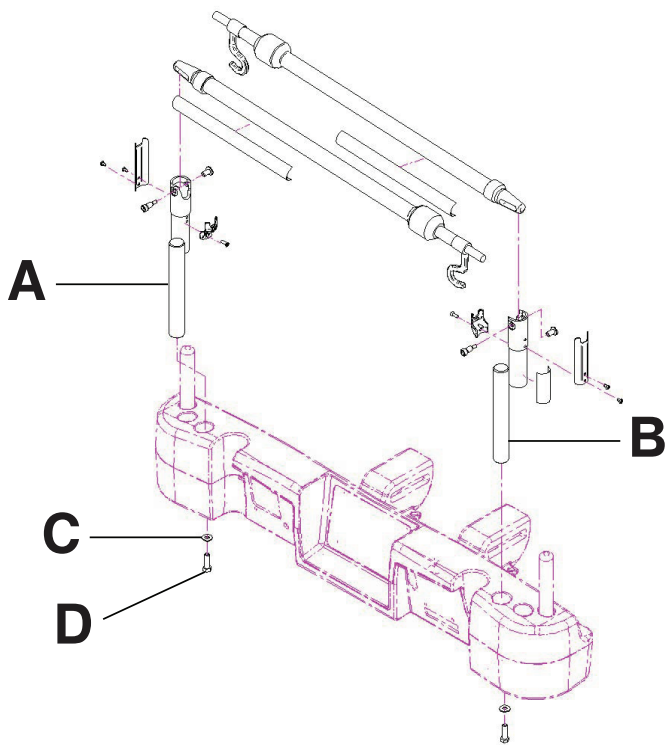

Figure 89: Dual two stage IV pole
1. Using a 3/8 in. drive ratchet and a 1/2 in. socket, install one washer (C) and one bolt (D) to secure the IV pole into the socket at the head end of the product (A) (Figure 89 on page 97).
2. Using a 3/8 in. drive ratchet and a 1/2 in. socket, install one washer (C) and one bolt (D) to secure the IV pole support into the socket at the head end of the product (B) (Figure 89 on page 97).